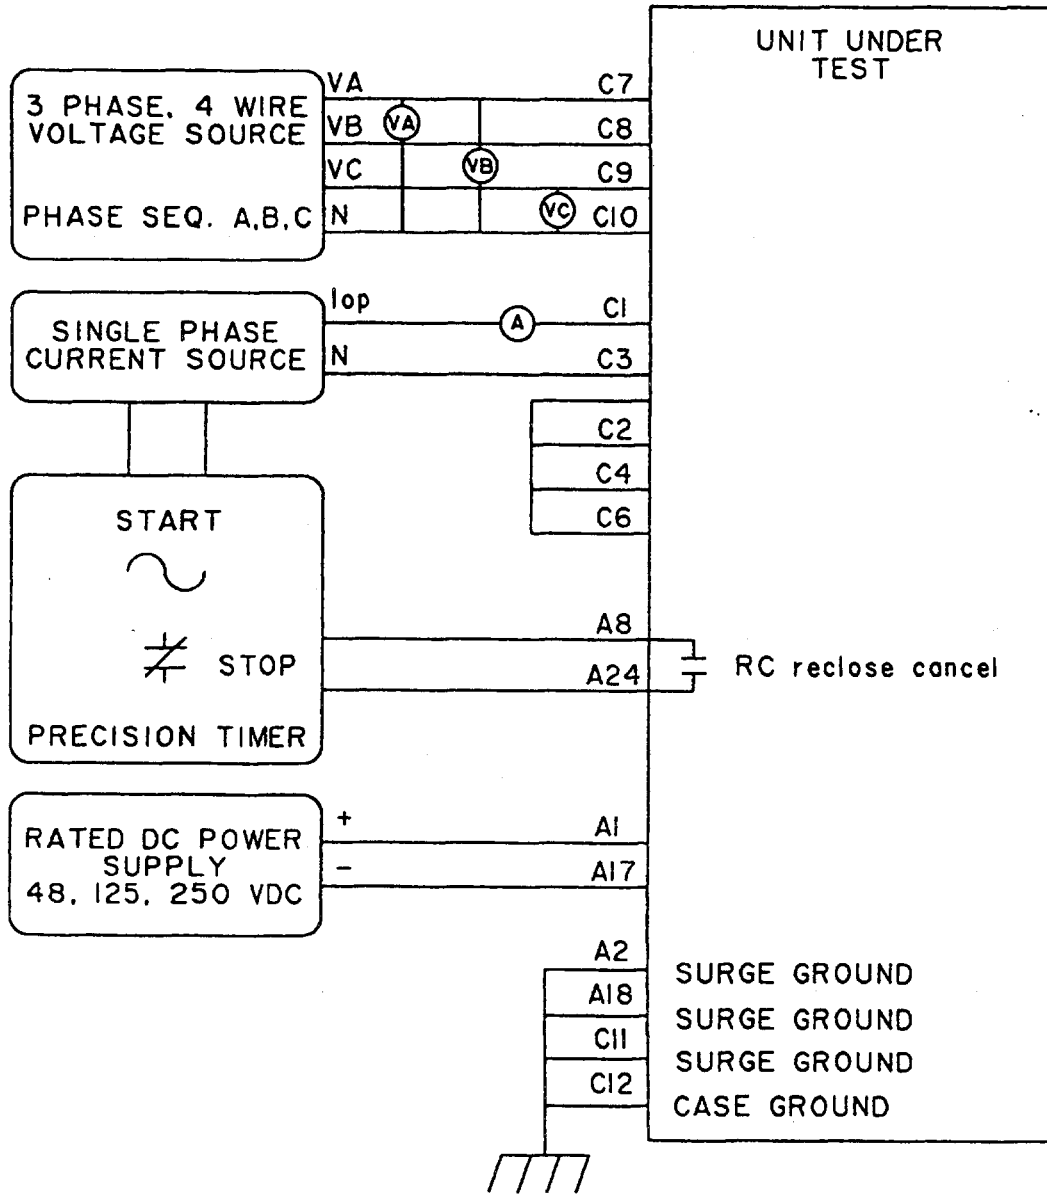

Figure 4-6. Phase-reach timer test connections (drawing #0357A3044, sh. 6).
2. Connect the relay as shown in Figure 4-6 for an AB fault.